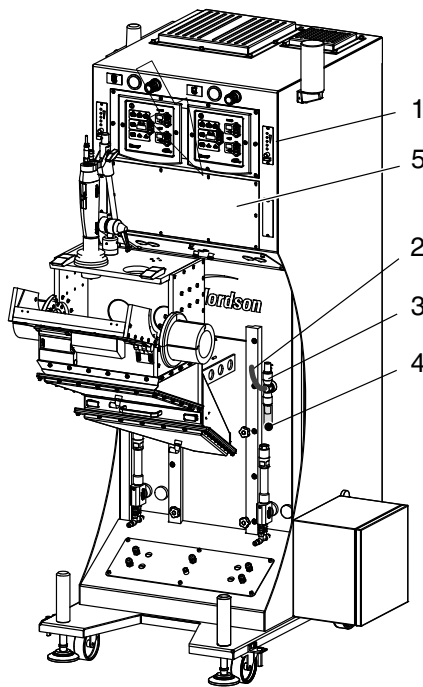

Fig. 7-2
2. Remove the cover plate (5, Fig. 7-2).
3. Release the plug connections on the old evaluator (1, Fig. 7-2).
2. Remove the old sensor cable (2, Fig. 7-2):
- a. Remove the cover plate (5, Fig. 7-2).
3. Remove the old sensor (3, Fig. 7-2) from the powder hose (4, Fig. 7-2).